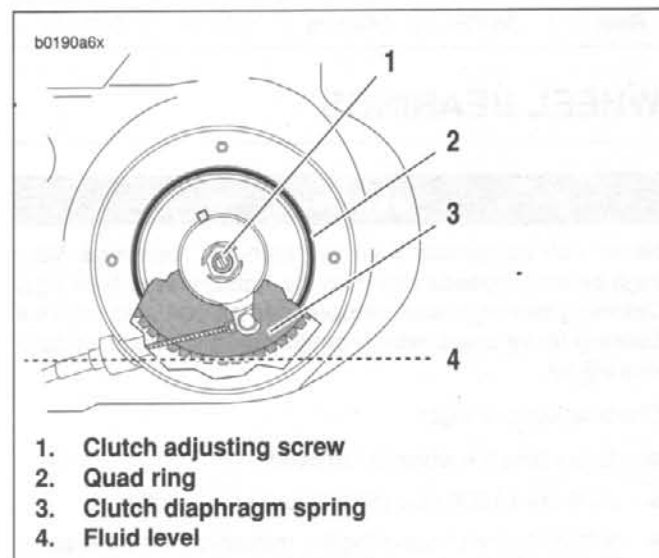

Figure 1-35. Fluid Level
6. See Figure 1-35. Add SPORT-TRANS FLUID (Part No. 98854-96 quart size; Part No. 98855-96 gallon size) as required until fluid level (4) is even with bottom of clutch diaphragm spring (3).